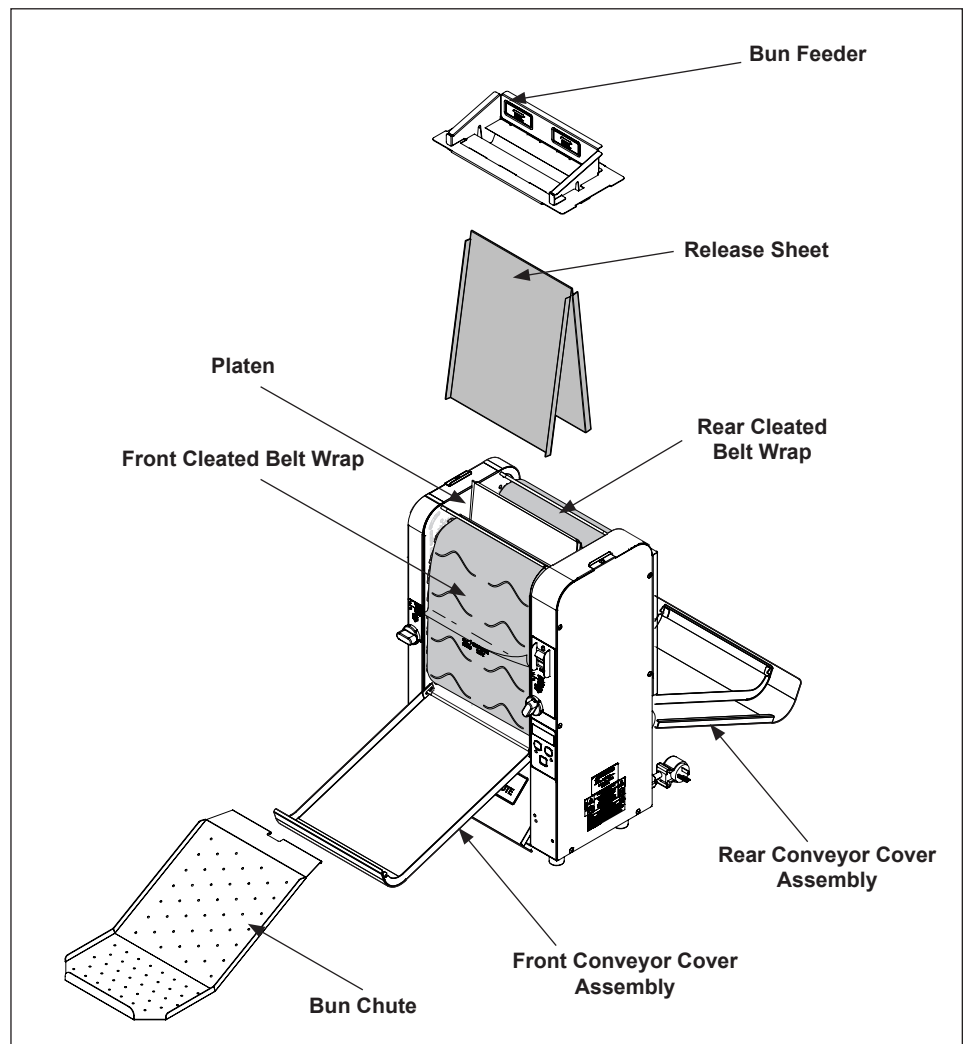

Figure 1. Components
2. Open the included large box. It should contain the following (Figure 1):
2. Insert the Bun Chute through the front of the unit according to Figure 1.